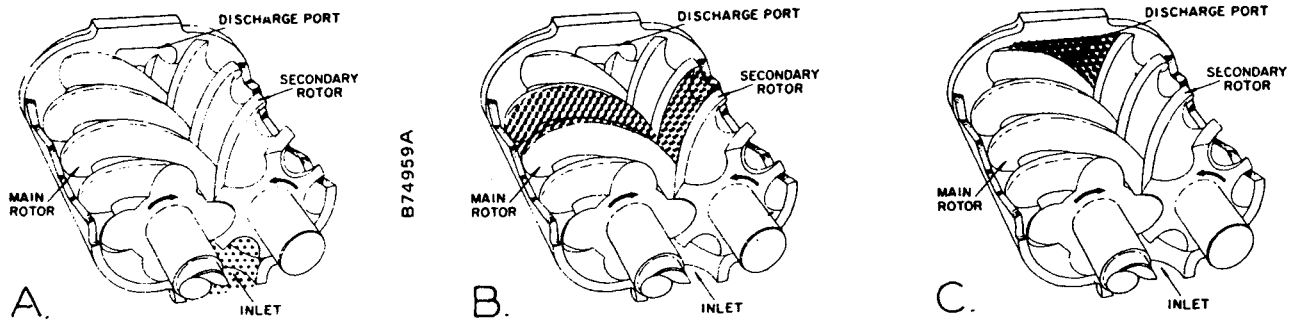

FIGURE 1-1. – COMPRESSION CYCLE
**COMPRESSION PRINCIPLE** (Figure 1-1) – Compression is accomplished by the main and secondary rotors synchronously meshing in a one-piece cylinder. The main rotor has four (4) helical lobes 90° apart. The secondary rotor has six (6) matching helical grooves 60° apart to allow meshing with main rotor lobes.
The air inlet port is located on top of the compressor cylinder near the drive shaft end. The discharge port is near the bottom at the opposite end of the compressor cylinder. *Figure 1-1 is an inverted view to show inlet and discharge ports.* The **compression cycle** begins as rotors unmesh at the inlet port and air is drawn into the cavity between the main rotor lobes and secondary rotor grooves (A). When the rotors pass the inlet port cutoff, air is trapped in the interlobe cavity and flows axially with the meshing rotors (B). As meshing continues, more of the main rotor lobe enters the secondary rotor groove, normal volume is reduced and pressure increases.